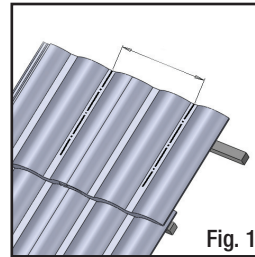

Fig. 1
1. Measure tile pitch before attaching brackets to the solar collector Fig. 1.